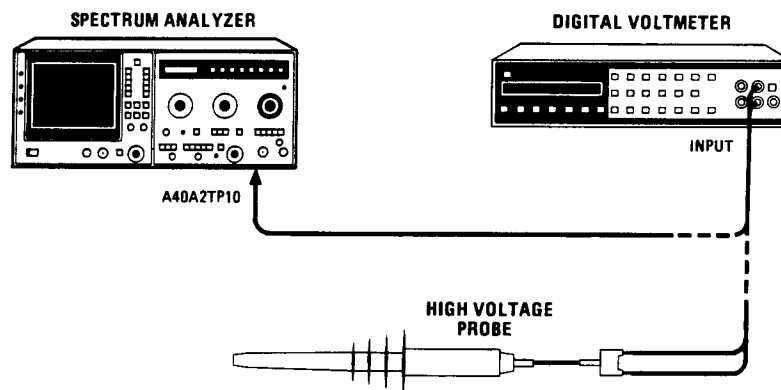

Figure 5-3. High Voltage Power Supply Adjustment Test Setup
- a. Set digital voltmeter (DVM) to AUTO range, measure output of + 158V supply at A40A2TP10 with standard DVM probe, and record reading. (See Figure 5-3.)